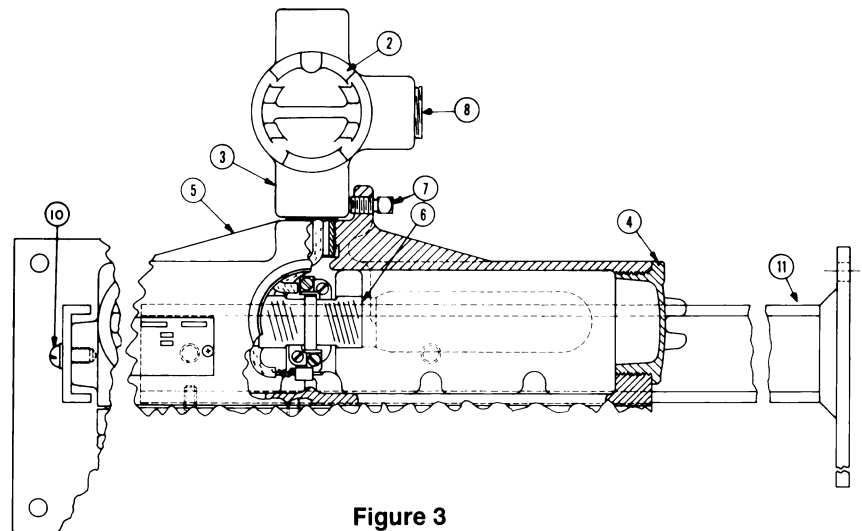

Figure 3
4. Remove covers (4) at each end of fixture (5). Install a lamp (not provided) in receptacle (6) at each end using lamp wrench supplied with fixture. Replace covers (4) tightening them securely. Refer to **Fixture Lamps** Section following.
**Bracket Mount: (See Figure 3)**
1. Attach end bracket (11) to wall in desired position using four 5/16 inch bolts or lag screws (not provided).
2. Attach fixture (5) to end bracket (11) using two 5/16 inch round head screws with washers (10) provided.
3. Attach conduit to either end hub of junction box (3) or both ends, if through feed is required. Install and securely tighten plug (8) into any unused hub. Tighten set screw (7).